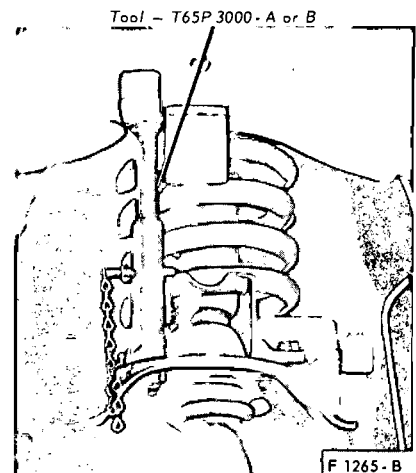
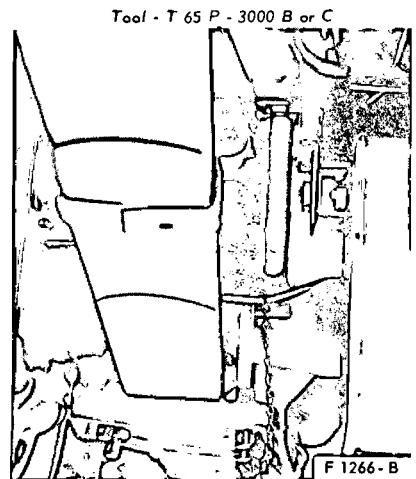

FIG. 3—Typical Front Alignment Spacer Installation
FIG. 4—Typical Rear Alignment Spacer Installation
2. Mustang and Cougar, do not use pin (Fig. 4).
Equipment used for front wheel alignment inspection must be accurate. Alignment height spacers (Figs. 3 and 4) are used to check caster, camber. The spacers should be omitted when checking toe-in.
Raise the front of the vehicle and position the alignment spacers between the suspension upper arm and the spring tower as shown in Fig. 3. The lower end of the spacer should be placed over the head of the ball joint front outside attaching rivet. Position the alignment spacers for the rear of the vehicle between the rear axle and the side rail as shown in (Fig. 4).